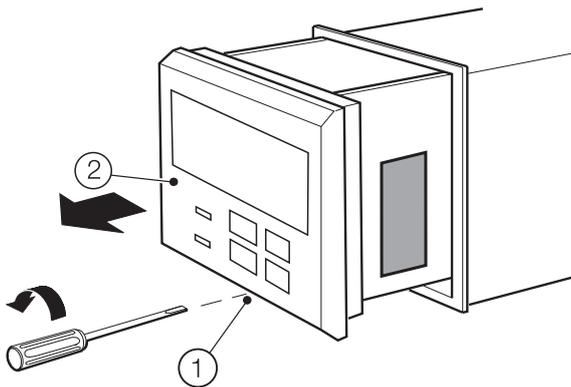

Figure 3 Removing the transmitter from its case
- 2 Referring to Figure 3:
- a Release captive screw ①.
- b Remove transmitter ② from its case.
- 4 Referring to Figure 3, refit transmitter ② to its case and secure with captive screw ①.